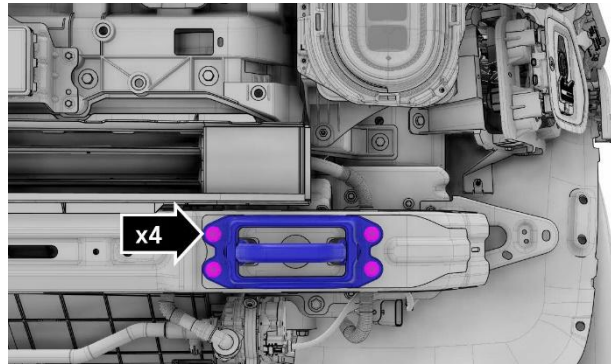

**Figure 22**
1. Starting from the outside edges and working towards the center of the vehicle, gently pry near the highlighted clips to release the fascia. (Figure 22)